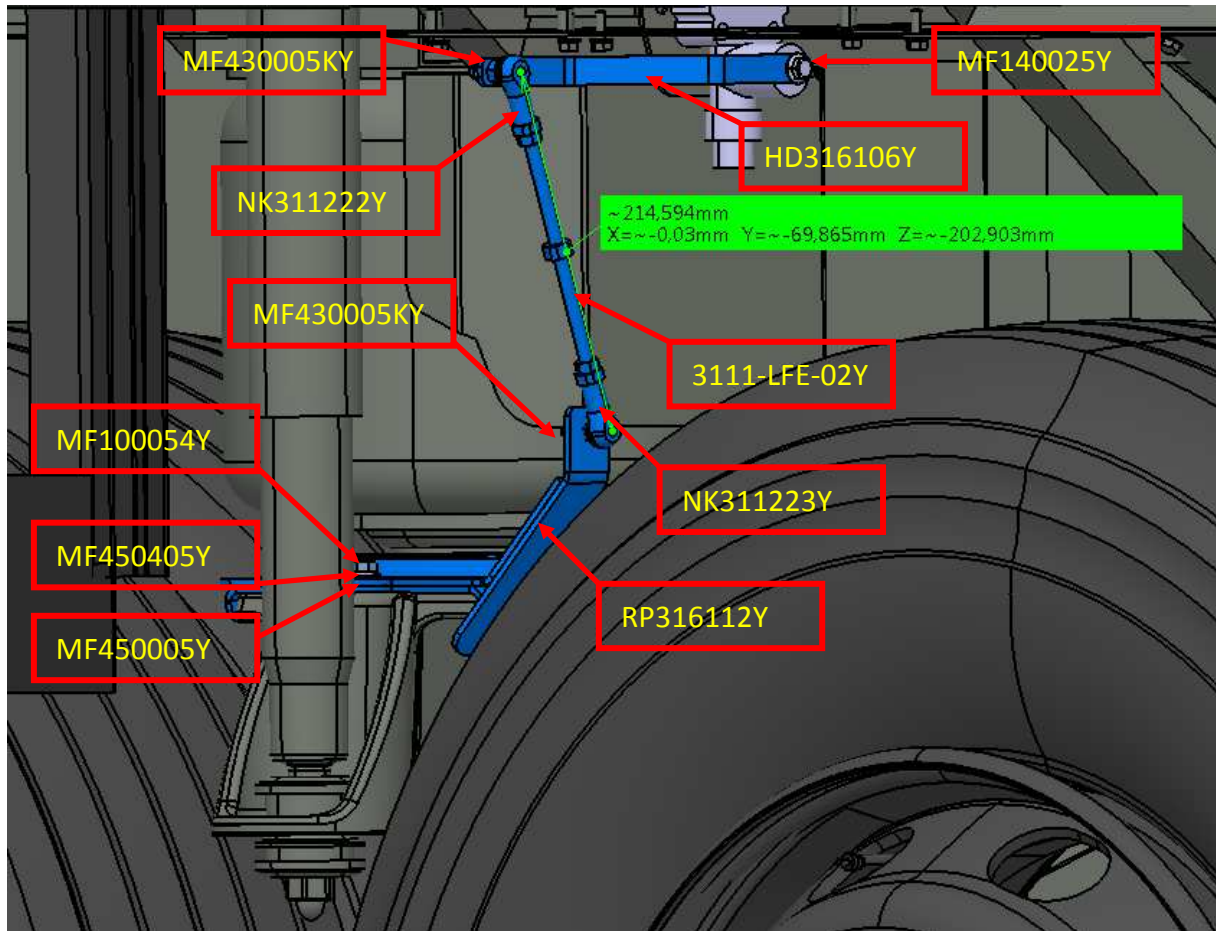

Figure-6
Step 6: Install the leveling arm (HD316106Y), leveling rod (3111-LFE-02Y) and bracket (RP316112Y) respectively. See "Figure-6"